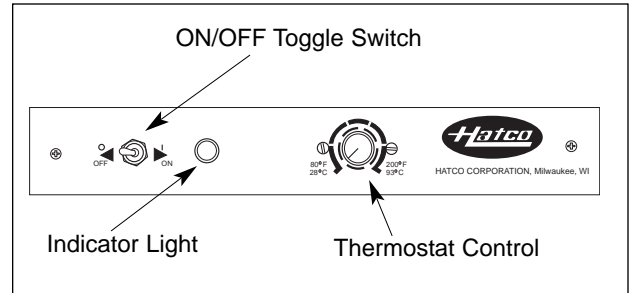

Figure 6. Operating Controls - GR2S
2. Turn the main toggle switch to the ON position. Indicator light will glow when unit is energized. See Figure 6.